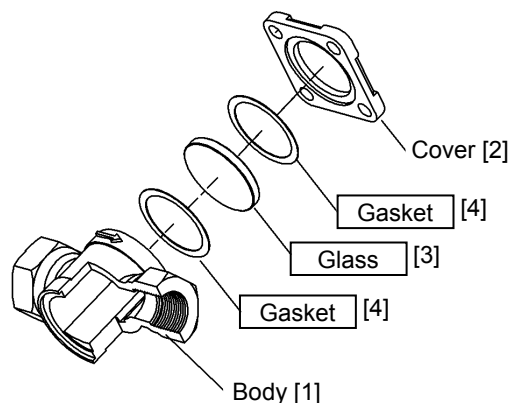

Figure 4
1. Attach the gaskets [4], glasses [3], gaskets [4], and covers [2] in this order to the body [1]. (See Figure 4.)